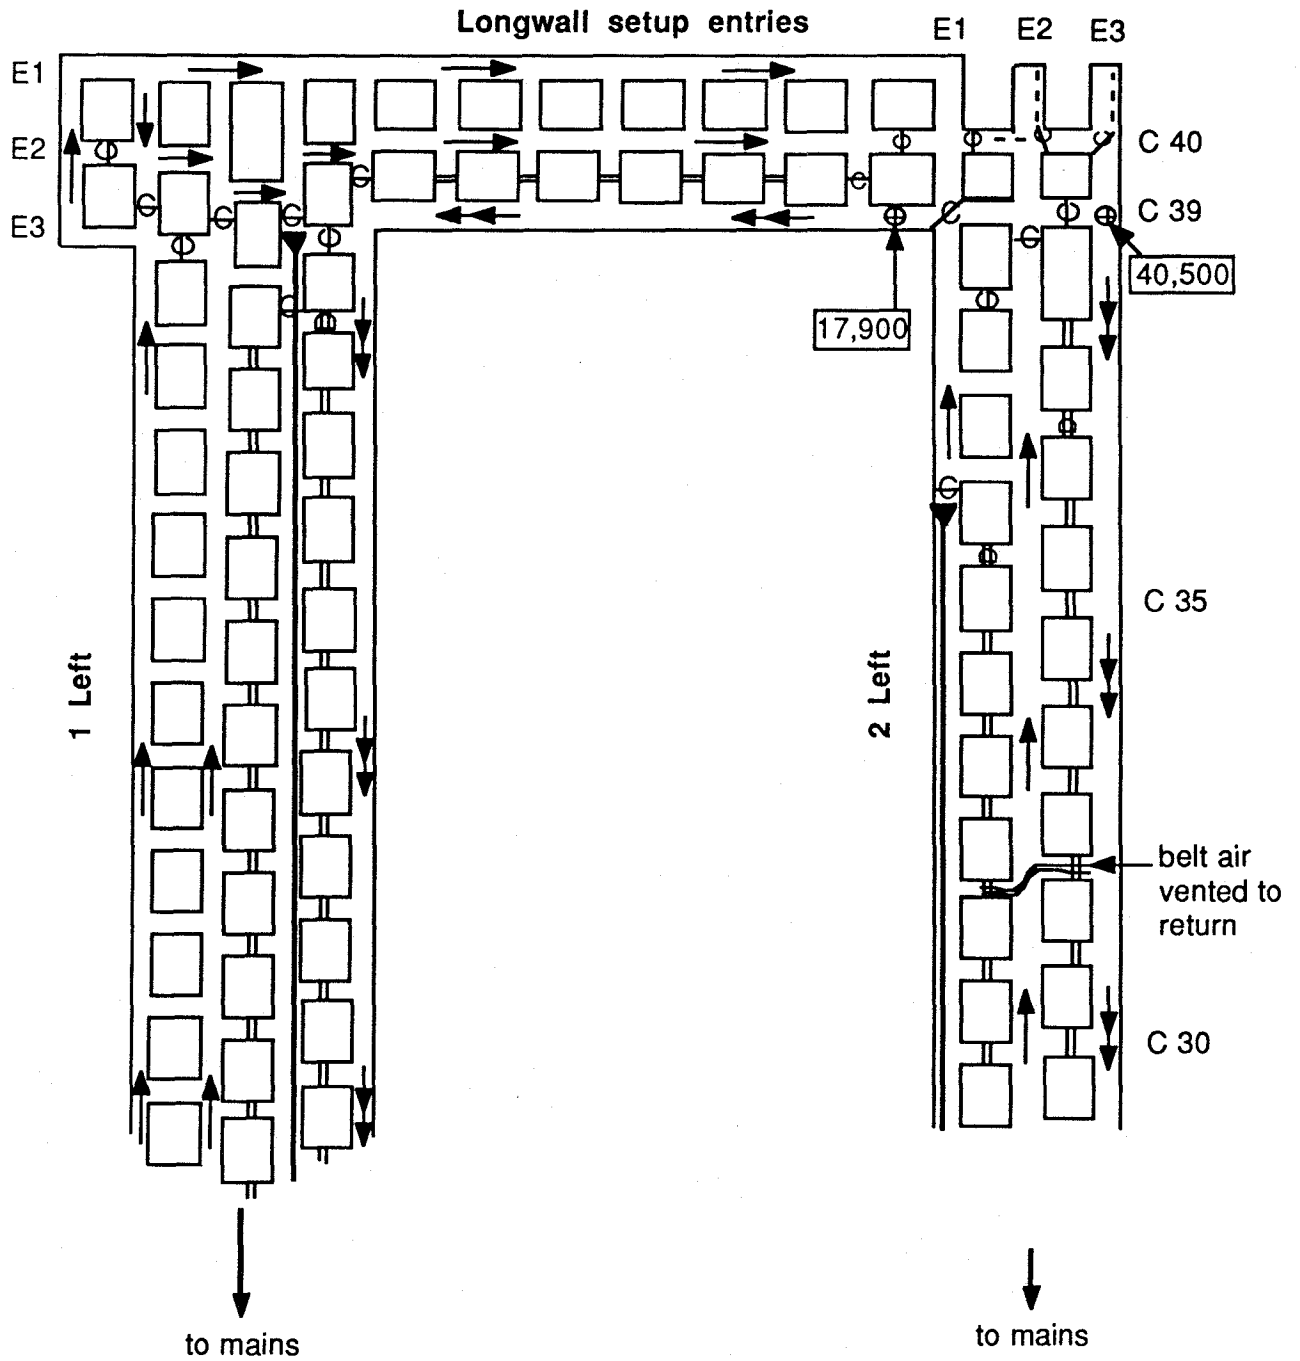
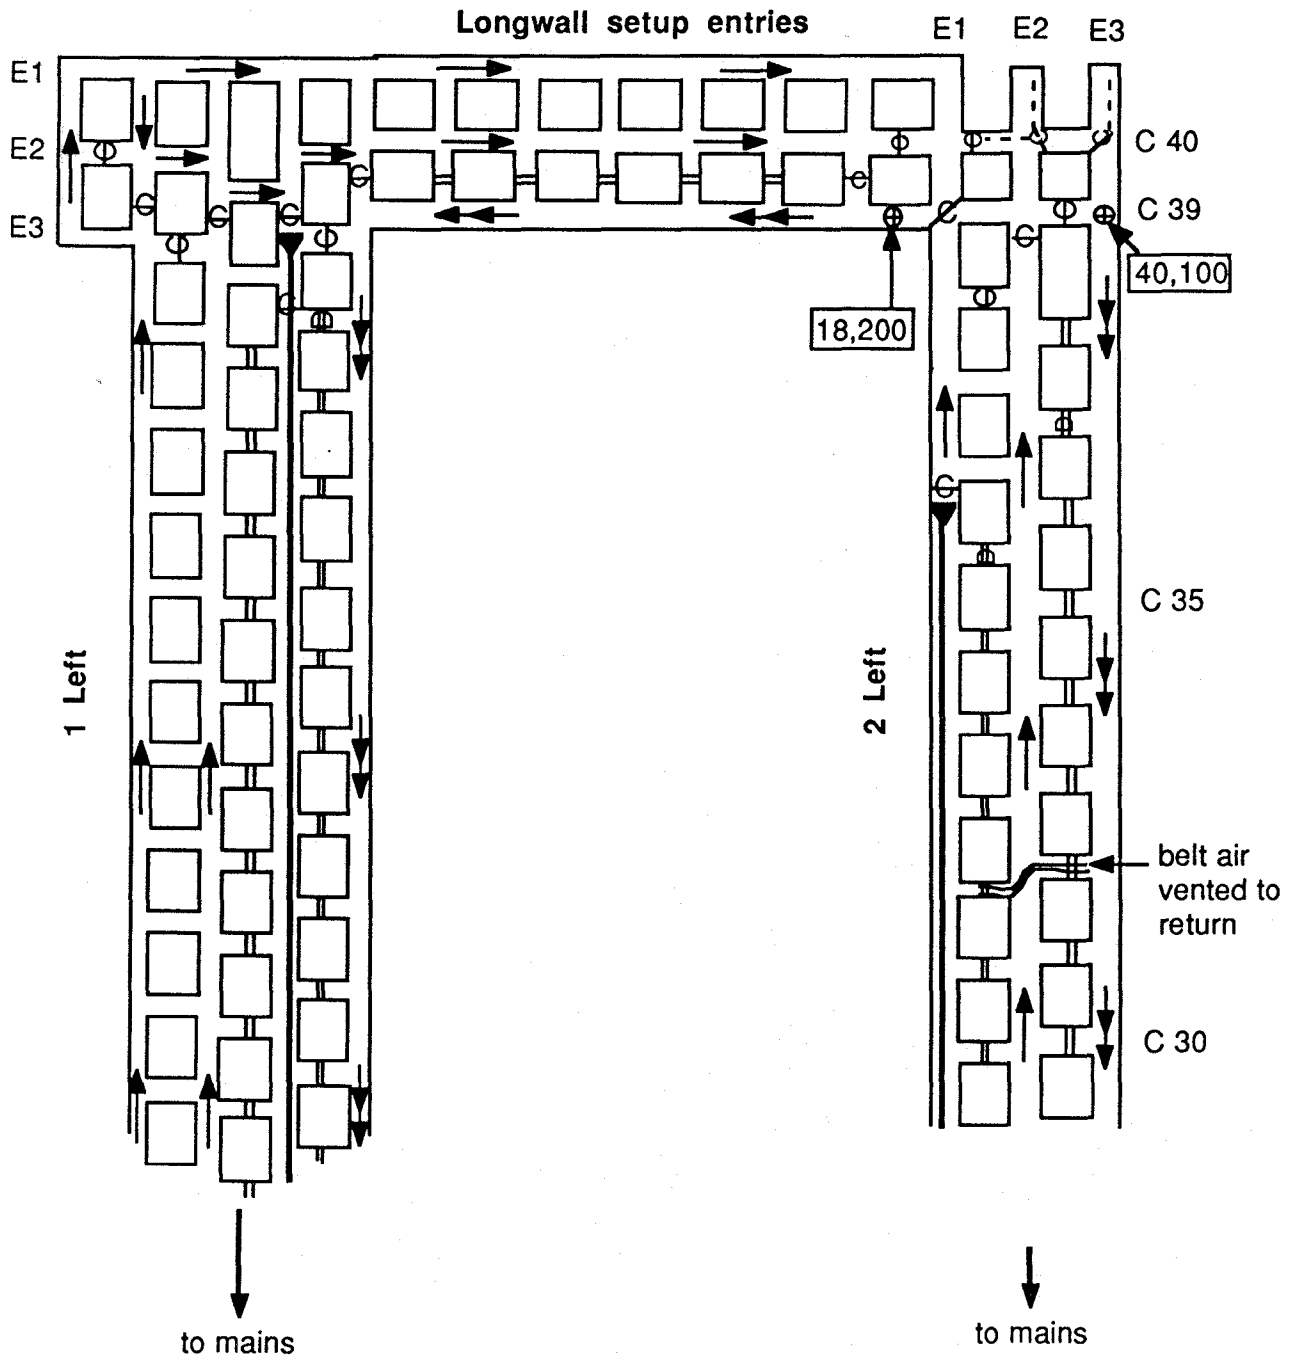

Figure 7: Day shift foreman's ventilation arrangement and air quantity readings
Figure 8: Mark locations of additional methane readings with **M**s and locations of additional air flow readings with **X**s
The day shift section foreman makes the ventilation arrangements shown in Figure 7. He then takes the air quantity readings at the locations shown in the boxes. When he talks to a mine mechanic, he learns that the connection between #2 Left and the longwall setup #2 entry has been open for nearly 9 hours.
When the day shift 2 Left section foreman first came on the section he made methane checks at the faces of entries #1, #2, and #3. He found no appreciable methane. Then he found the cutthrough at crosscut #40 open and immediately ordered it curtained off as shown Figures 7 and 8. Then he learned that the cutthrough had been open for nearly 9 hours. After the curtain was up he again made air flow measurements shown at the locations indicated on Figure 8.
20. If you think the foreman should have made additional methane checks, use an **M** to mark each location. Write your **M**s directly on the map in Figure 8. (Write only on the answer sheet.)
22. If you think the examiner should have made additional air flow measurements, mark the locations on the map in Figure 8 using **X**s. (Write only on the answer sheet.)